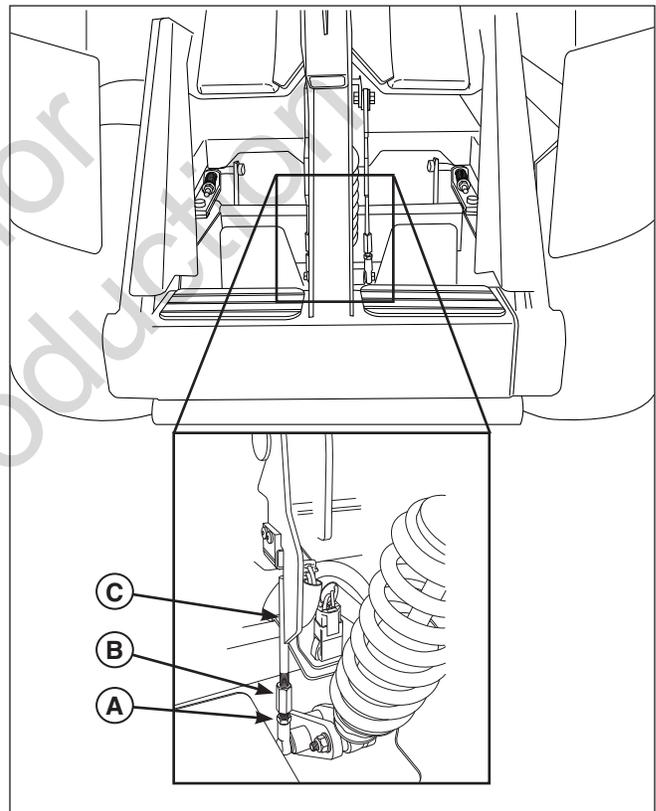

Figure 28. Neutral Adjustment
2. Loosen the jam nut (**A, Figure 28**).